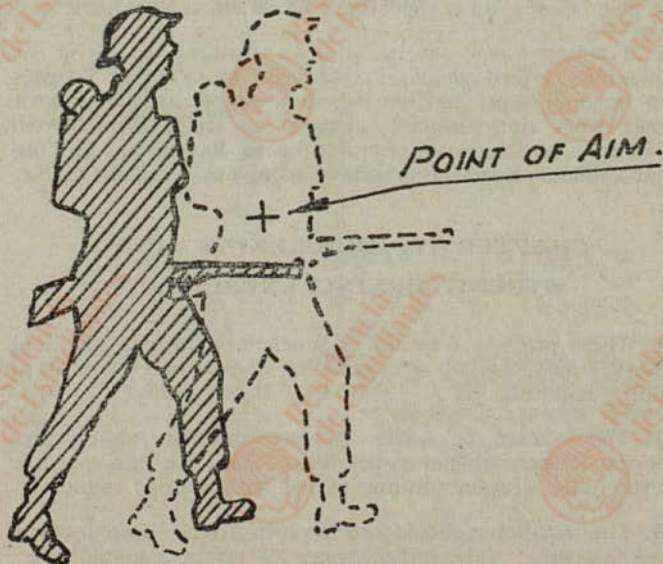

Fig. 14a
- i. Aim off at man walking—1 man's width. (Fig. 14a.)